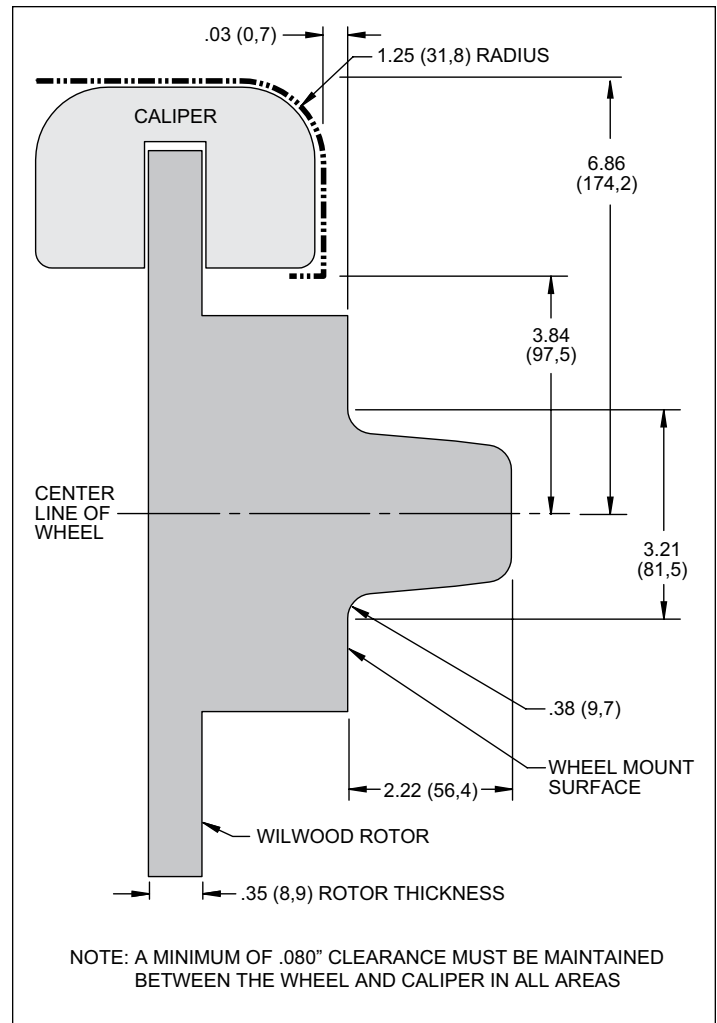

Figure 4. Wheel Clearance Diagram
- Verify wheel clearance using Figure 4.